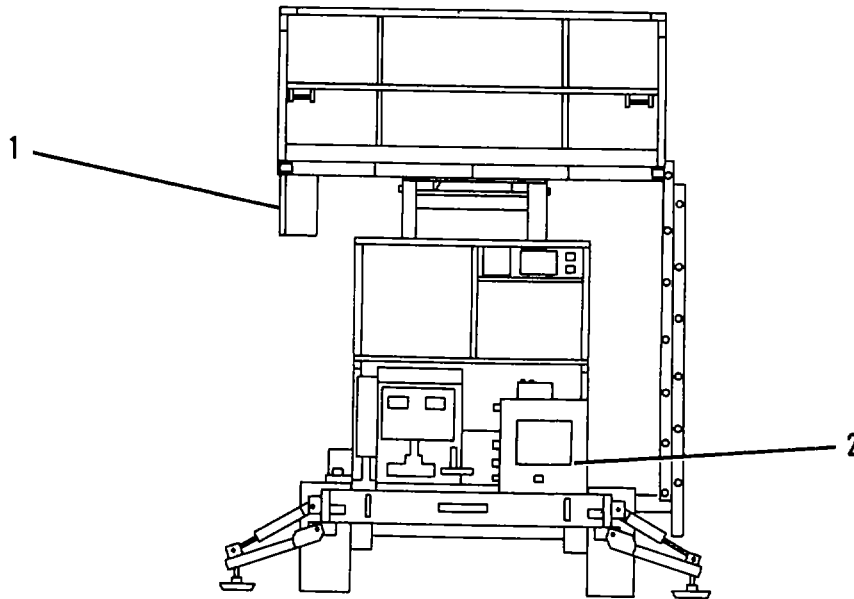

Figure 4-3. Junction Boxes .
- a. Inspect the boxes (1 and 2, Figure 4-3) for external damage. If there is external damage, check components inside, next to the damaged area, to see if they also sustained damage.